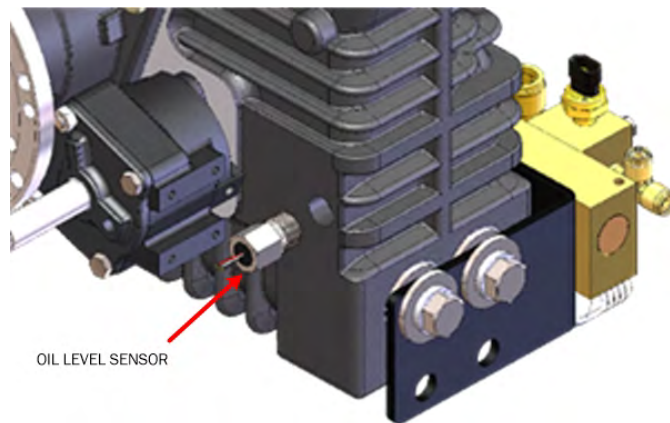

Figure 51. Gearbox Oil Level Sensor R&R
- C. Using 7/8-in wrench, remove sensor. See Figure 51.